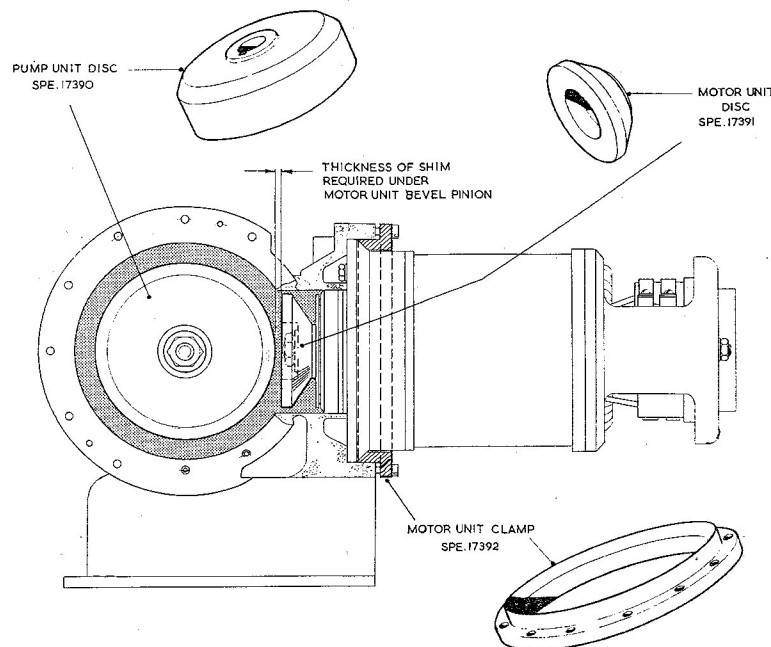

Fig. 12. Bevel pinion shimming tools
Bevel pinion shimming (fig. 12)
(4) With feeler slip gauges measure the gap between the outer edge of the pump shaft disc and the front face of the motor spindle disc (fig. 12). This is the correct thickness of the shims required for assembling the pinion on the motor shaft.
(5) Separate the motor unit from the pump unit by removing the clamping ring, and remove the disc. Select shims (16), of correct total thickness, and check that they are free of edge burrs. With the drive key (7) in position, press on the bevel pinion (5); ensure that this pinion is marked so that it can be paired with the matched bevel gear as supplied. Secure the pinion with the clamp washer (34) and self-locking nut (35) and tighten the nut. Fit a new jointing ring (13) in the groove in the motor end casing.
(6) Examine the motor unit for cleanliness, and tightness of all screws (countersunk-head screws should be locked by peening metal into their slots unless specifically detailed otherwise).